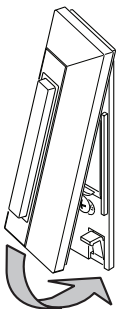

Figure 6 - Attach Push Button onto Back
9. Once your push button and chime are wired and functioning correctly, place top of push button onto back and snap bottom of push button into place (see Figure 6). *Note:* The push button must be mounted with the keyfinder lens facing downward.